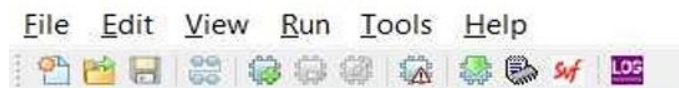

Figure 3.12. Programmer Menu Bar
7. Click the **Programming** button from the menu bar shown in Figure 3.12 to start programming.